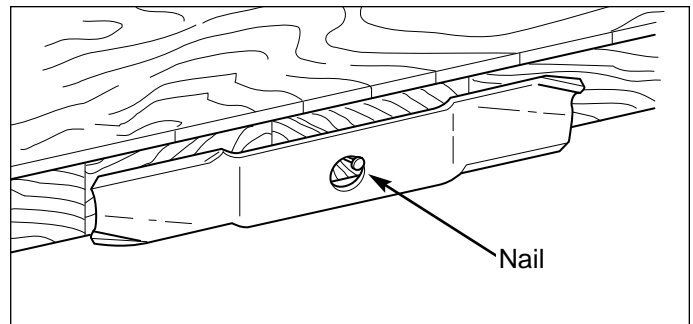

Figure 32. Balancing The Blade
4. Balance the blade as shown in Figure 32. Center the blade's hole on a nail lubricated with a drop of oil. A balanced blade will remain level.